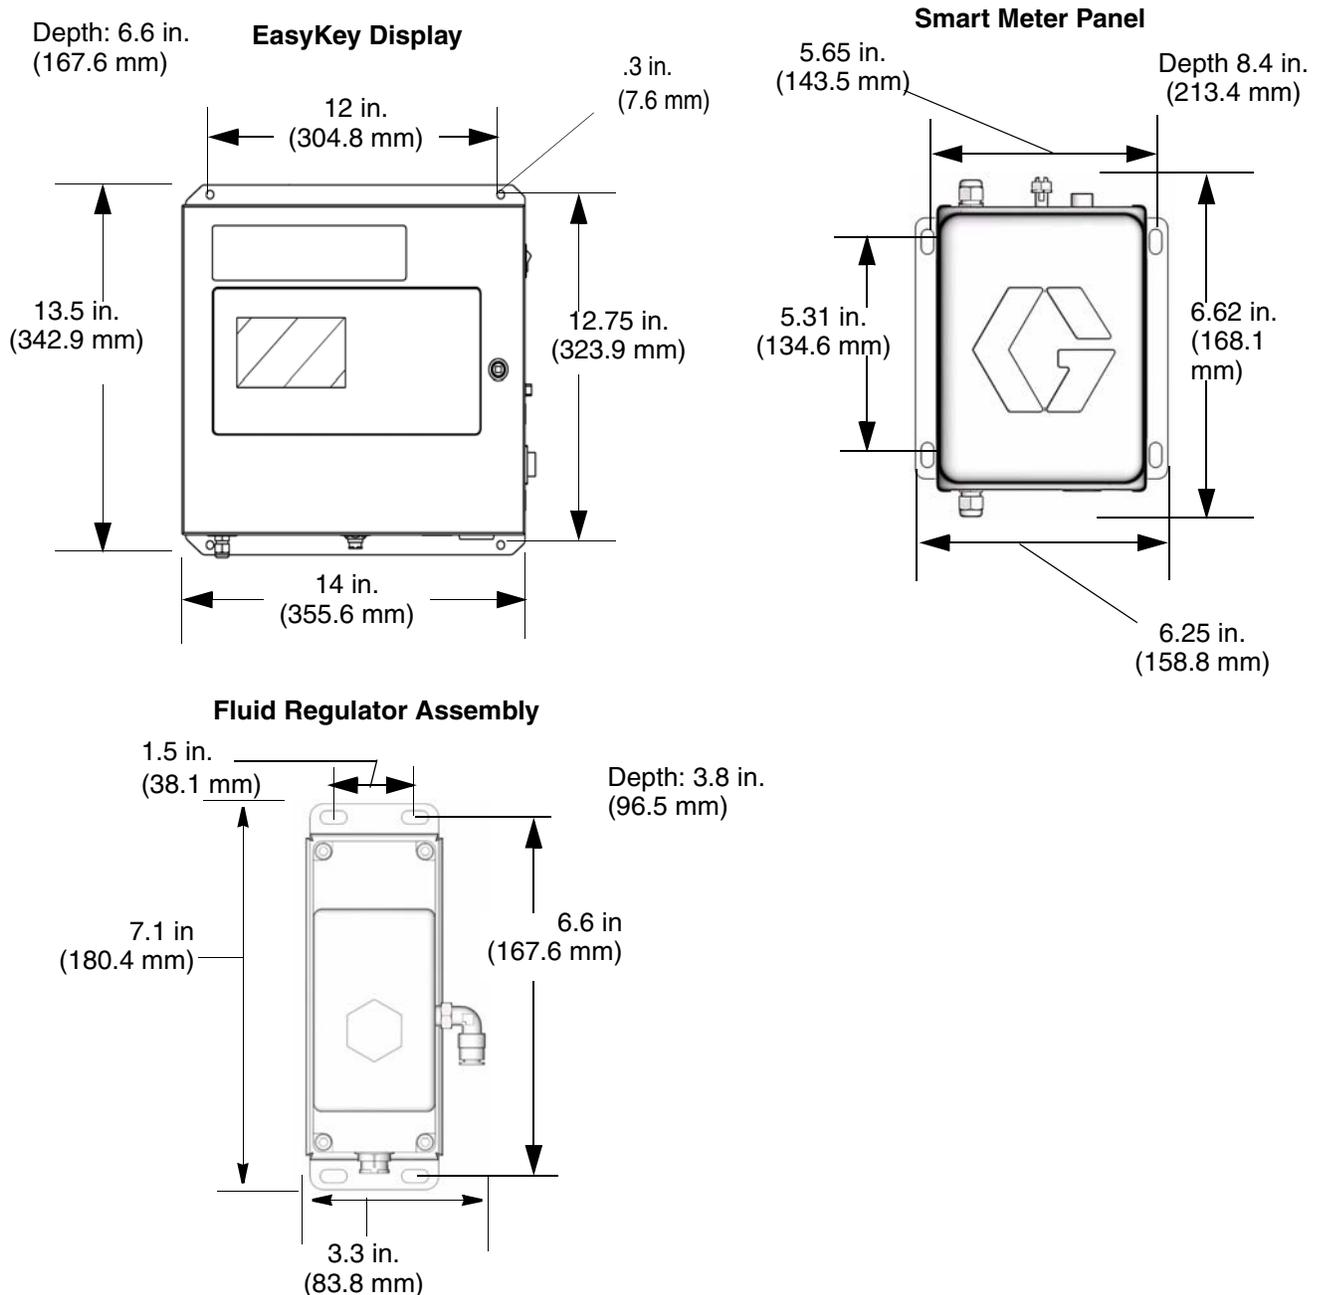

FIG. 6
3. Using the equipment as a template, mark the mounting holes on the wall at a convenient height for the operator and so equipment is easily accessible for maintenance. See FIG. 6.